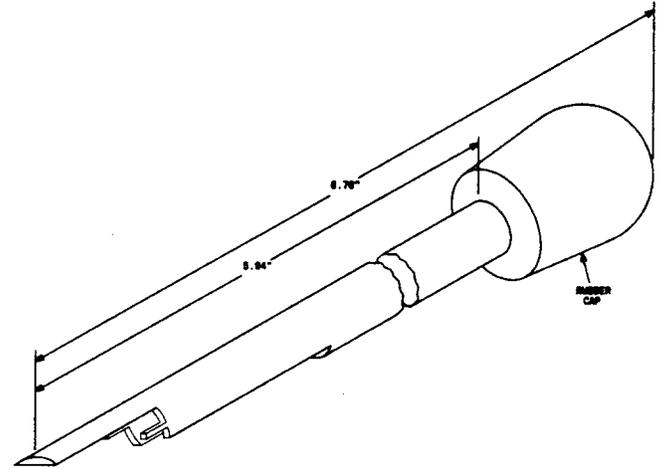

Fig. 20—963A Insertion Tool
2.22 **963A:** The 963A insertion tool (Fig. 20) is used for inserting straight-type spade lug receptacles such as AMP® 250 series FASTON® onto 221B and 221C terminals.